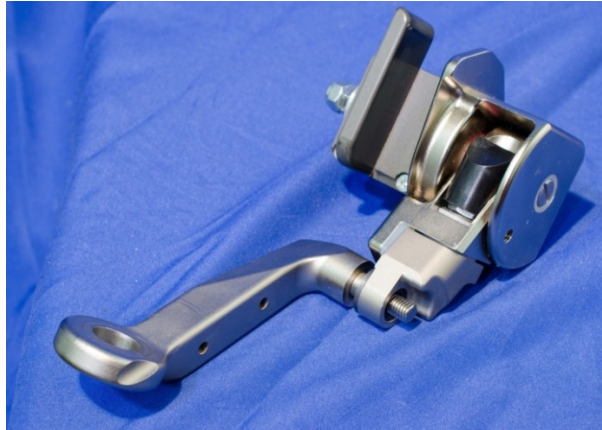

Figure 7-14. Insert arm link into shoulder assembly
- 7.2.2.8 Insert the shaft of the Left Arm Link (472-3829-1) into the shoulder assembly (Figure 7-14).